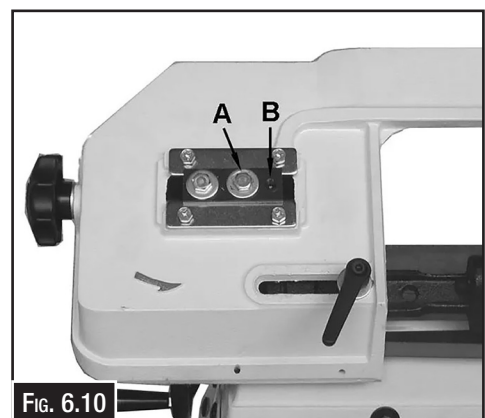

FIG. 6.10
4. **Adjust the Tracking:** Locate the tracking adjustment screws (B, Fig.6.10) located on the back of the idler wheel housing. While turning the wheel by hand, adjust the screws to tilt the wheel slightly. Tilt the wheel in the direction you want the blade to move (e.g. tilting the top of the wheel back will move the blade toward the front of the wheel).
5. **Test and Lock:** Once the blade is tracking in the center of the crown, lock the adjustment screws or jam nuts (B, Fig. 6.10) in place. Re-engage the power, run the saw briefly, and double-check that the blade doesn't rub hard against the wheel flanges or drift back and forth.